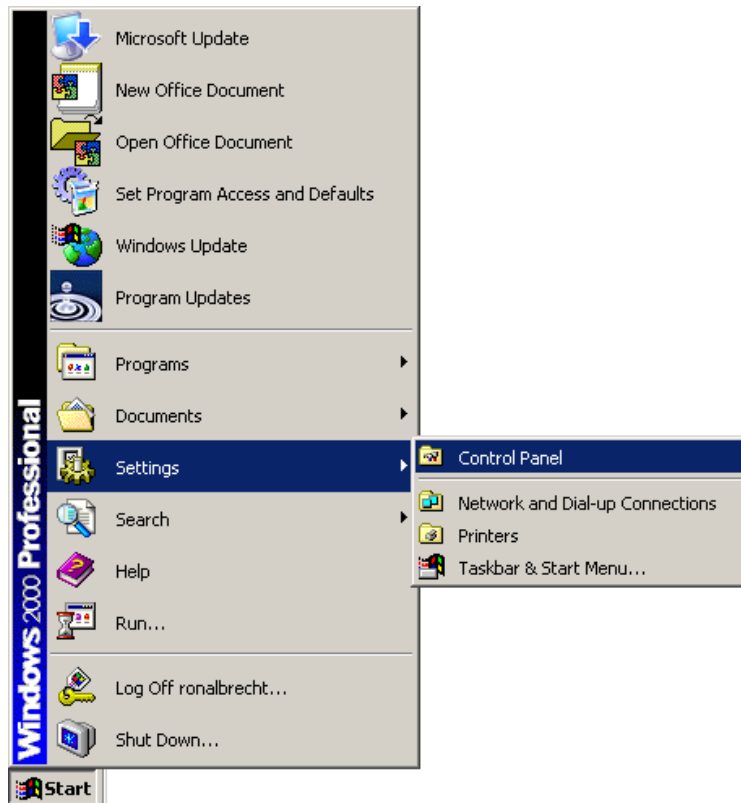

Figure 7-26: Windows Control Panel
Step 1: Open **Windows Control Panel** (Figure 7-26).